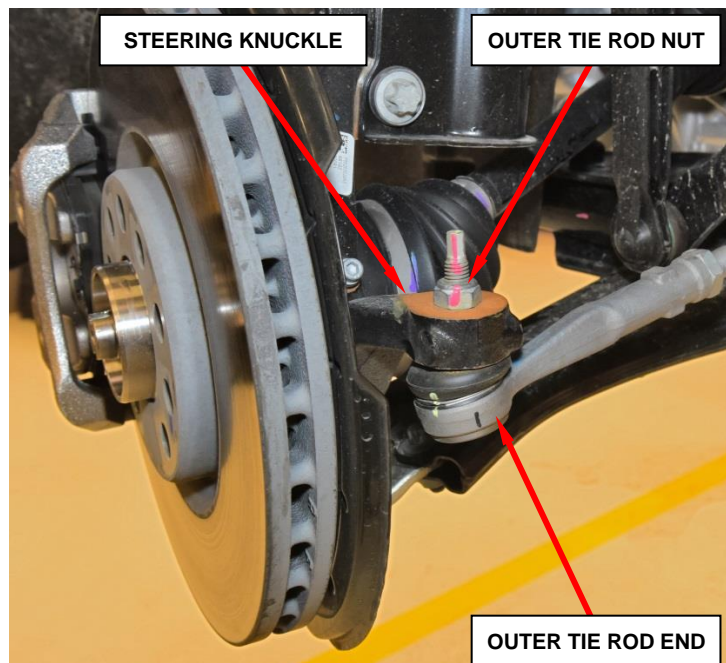

Figure 4 – Outer Tie Rod End
4. Unscrew the nut securing the outer tie rod end to the steering knuckle and **DISCARD**. **The used tie rod end nut is not reusable** (Figure 4).
16. Connect the tie rod end to the steering knuckle and tighten the **NEW** nut to 40 N·m (30 Ft. Lbs.) (Figure 4).